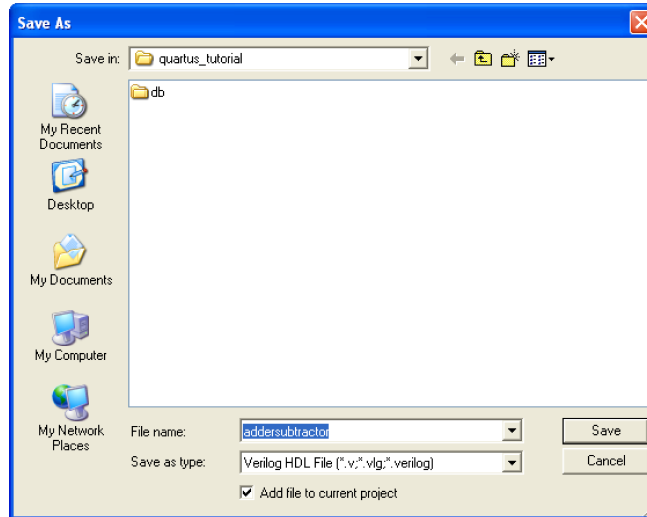
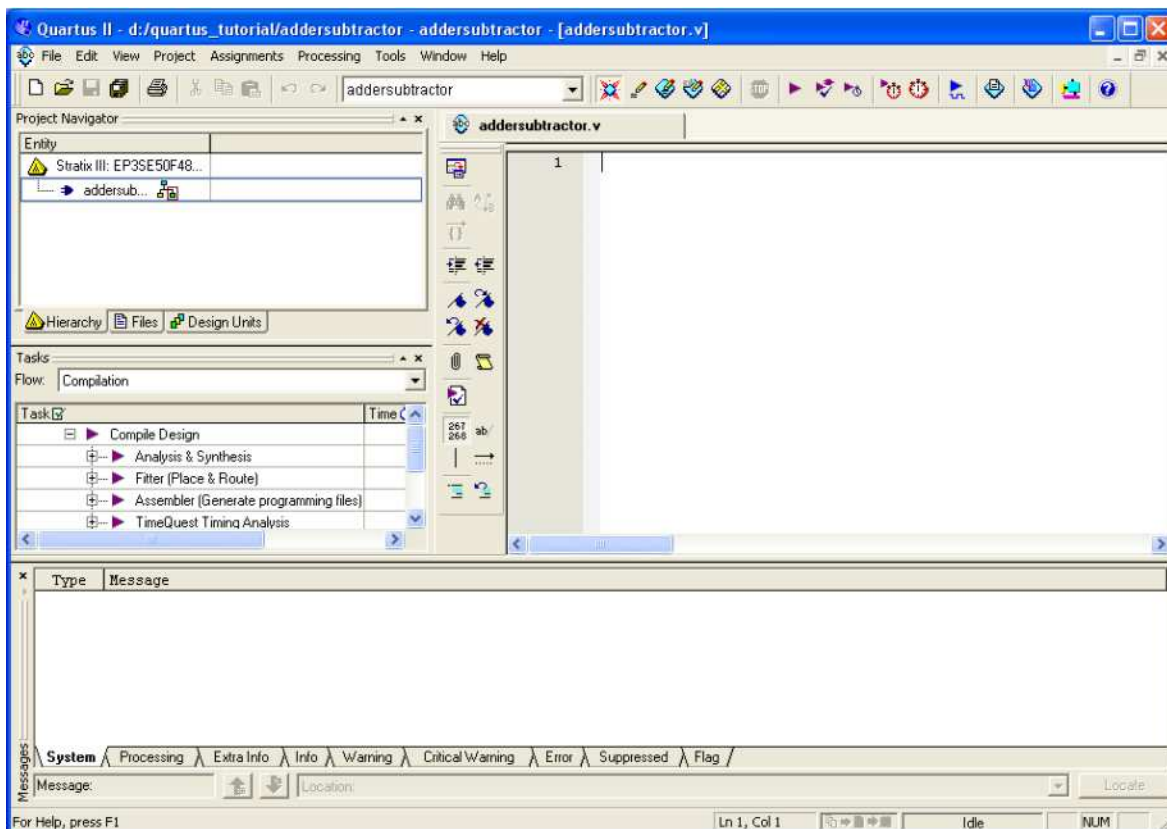

Figure 14: Name the file.
Figure 15: The Quartus® II display after saving the file.
2. The first step is to specify a name for the file that will be created. Select **File > Save As** to open the pop-up box shown in Figure 14. In the field labeled **Save as type** choose **Verilog HDL File**. In the field labeled **File name** type *addersubtractor*. Put a checkmark in the box **Add file to current project**. Click **Save**, which puts the file into the directory *quartus\_tutorial* and leads to the Text Editor window shown in Figure 15.